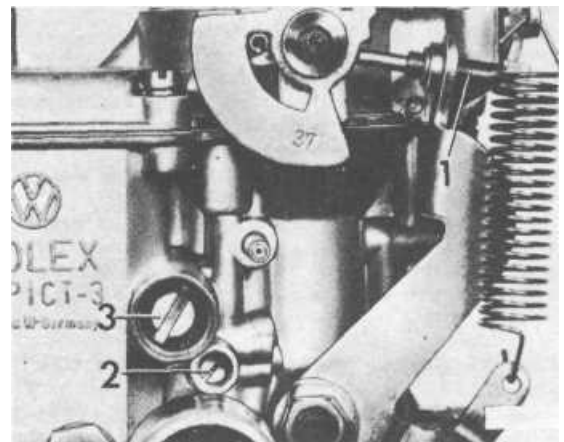

FIG. 12.4. CARBURETTOR ADJUSTING POINTS
- 11 Screw in the throttle adjusting screw (1) until the vacuum gauge shows a reading (Fig. 12.4).
- 13 Readjust the idle speed to between 800 and 900 rpm using the idle adjusting screw (3), (Fig.12.4).
- 15 If the level is not within 1 to 3% adjust the position of the screw (2), (Fig.12.4).
- 16 Finally reset the idle speed to specification using screw (3), (Fig.12.4).